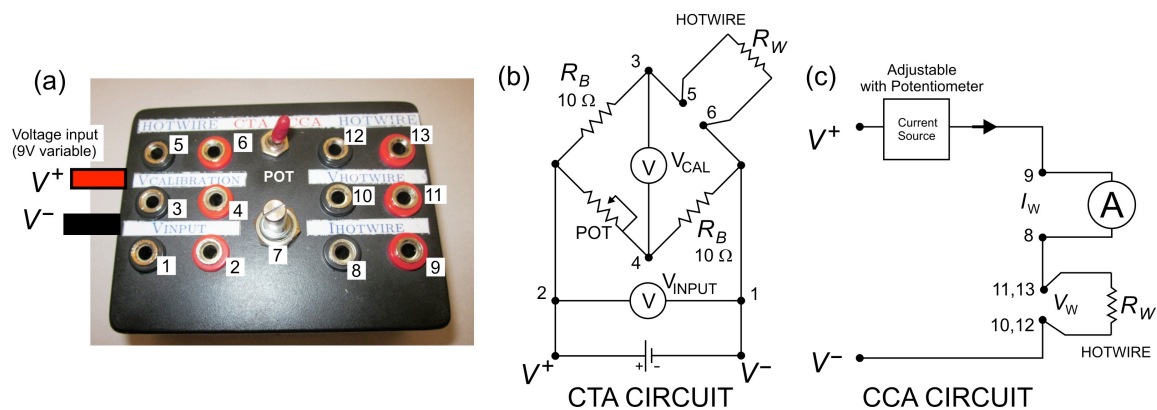
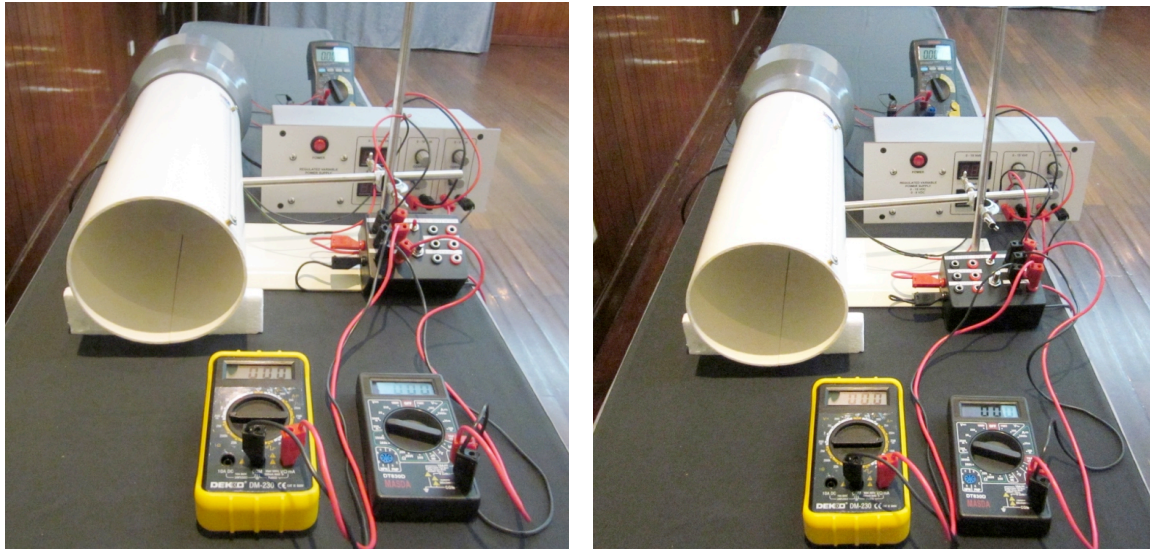

Figure 9. (a) Hotwire electronic box (b) Constant Temperature Anemometer (CTA) circuit (c) Constant Current Anemometer circuit (CCA).
Figure 10. (a) Constant temperature anemometer (CTA) setup on the left. (b) Constant current anemometer (CCA) setup on the right.
The two experiments require some electronic circuit to perform which we provide in an electronic box, see Figure 9 below. To perform each of the experiment, you will only need one side of the circuit. There is **a small switch on the top of the box** to toggle between the two, labeled as CTA (Constant Temperature Anemometer) and CCA (Constant Current Anemometer).
The constant temperature method is performed by keeping the temperature of the hotwire (and thus its resistance) constant for different wind speed. To achieve this we use Wheatstone bridge with a variable (POT) resistor across the hotwire to balance the bridge as shown in Figure 9(b).
- (b) Connect the wires and jacks according to Figure 9(b) and Figure 10(a). Use the 9V variable voltage source from the power supply for the hotwire electronic box.
- (b) Connect the wires and jacks according to Figure 9(c) and Figure 10(b). **Carefully inspect that they are correct and** make sure **all the knobs on the power supply are turned all the way down (left)** before you turn it on.